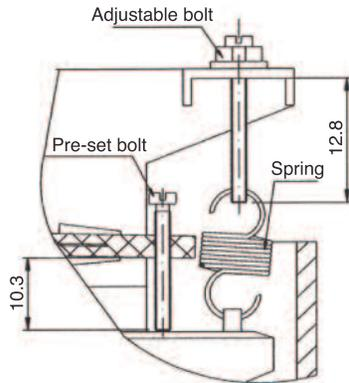

Figure 2: Adjustment
Once you have the correct vane length, you can then adjust the flow rate setting by means of the adjustable bolt shown in Figure 2. Fully tighten the adjustable bolt to obtain the minimum flow rate setting. Fully loosen the adjustable bolt to obtain the maximum flow rate setting. The adjustable bolt can be adjusted and set according to practical requirements. See Table 1 for the limiting flow rate settings in relation to the pipe diameter and blade length.
**Note:** The Model FS-2 is shipped with the adjustable bolt fully tightened, in the minimum setting. Also, the pre-set bolt shown in Figure 2 has been adjusted before leaving the factory. Users should not adjust this by themselves. Adjustment of the pre-set bolt could lead to switch malfunction and possibly void the warranty.